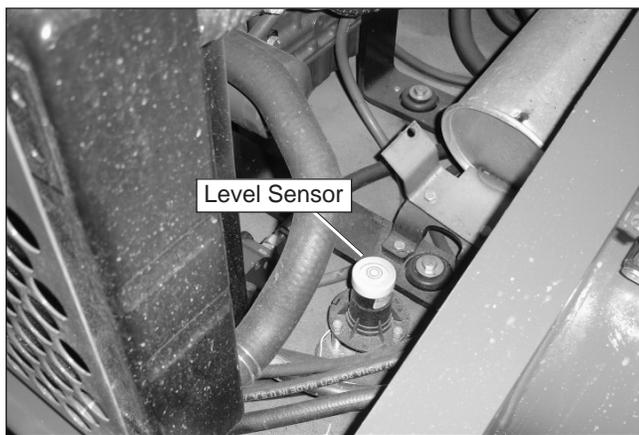

Figure 7.10 – Level Sensor
4. Remove the engine cover. The level sensor is in the right side of the engine compartment (refer to Figure 7.10).